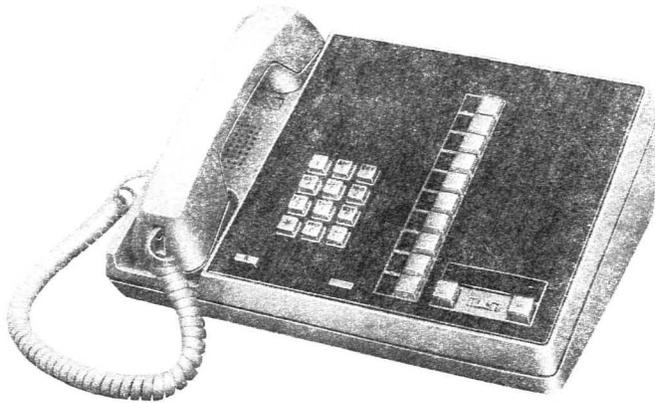

Fig. 7—2993C04 Telephone Set With Built-In Speakerphone
3.08 ◆The 2993C04 set, (Fig. 7) provides a built-in speakerphone (1C transmitter-receiver) and a 10-button key array. The 1C transmitter-receiver is mounted in the space normally occupied by key positions 11 through 30 used in the 30-button set. An ON/OFFSET, OFF button, volume control, and LED are provided in the speakerphone cover.